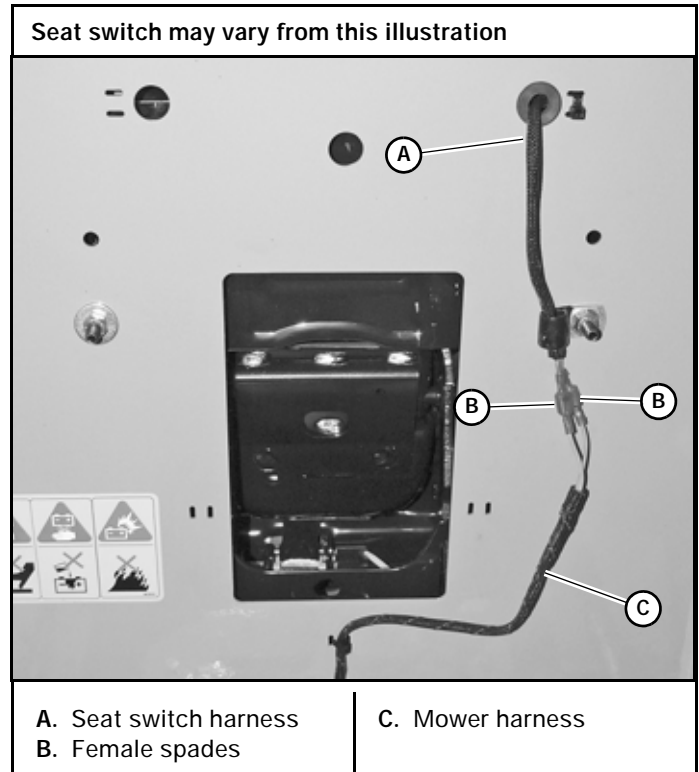

Figure 4-1
3. Raise the seat platform and disconnect the mower harness from the seat switch harness. Bypass the seat switch by connecting the two mower harness female spades together. Figure 4-1
be completed so that the safety circuit is functioning properly. Figure 4-1